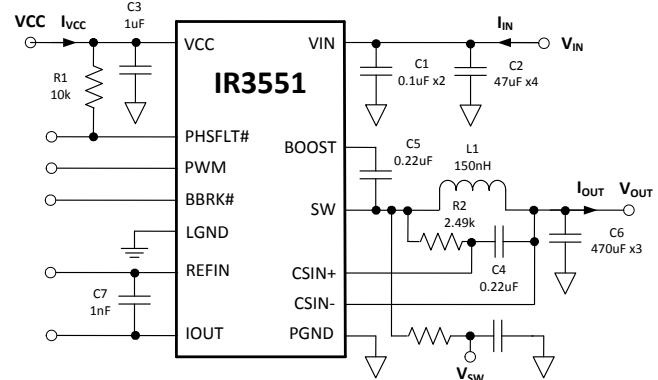

Figure 32: IR3551 Power Loss Measurement
Circuit of Figure 32, $V_{IN}=12V$, $V_{OUT}=1.2V$, $f_{SW} = 400kHz$, $L=150nH$ (0.29mΩ), $VCC=7V$, $T_{AMBIENT} = 25^{\circ}C$, no heat sink, no air flow, 8-layer PCB board of 3.7" (L) x 2.6" (W), no PWM controller loss, no inductor loss, unless specified otherwise.
Circuit of Figure 32, $V_{IN}=12V$, $V_{OUT}=1.2V$, $f_{SW}=400kHz$, $L=150nH$ (0.29mΩ), $VCC=7V$, $T_{AMBIENT}=25^{\circ}C$, no heat sink, no air flow, 8-layer PCB board of 3.7" (L) x 2.6" (W), no PWM controller loss, no inductor loss, unless specified otherwise.
The single-phase IR3551 efficiency and power loss measurement circuit is shown in Figure 32.